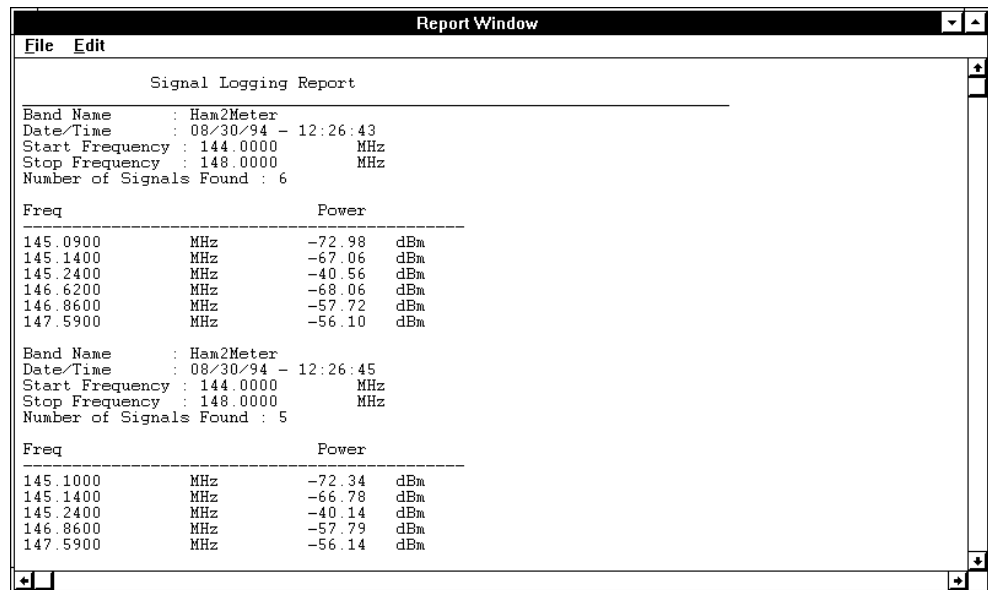

Figure 8-14: Typical Signal Logging Report
6. click on **Report** to open the **Signal Logging Report Window** (Figure 8-14).